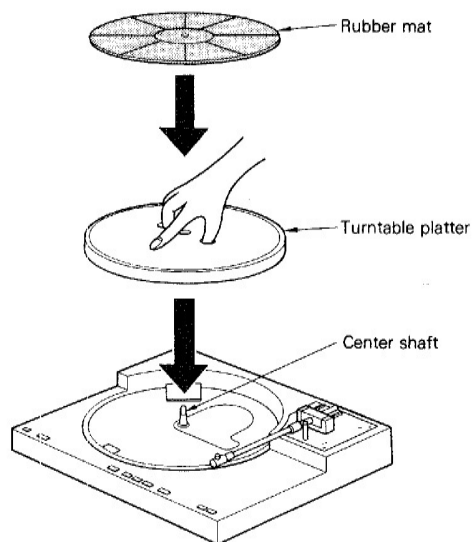

Fig. 1
1. Insert your fingers into the two holes in the turntable platter as shown in fig. 1 and then securely position it over the center shaft. Check to make sure that the platter is securely positioned.